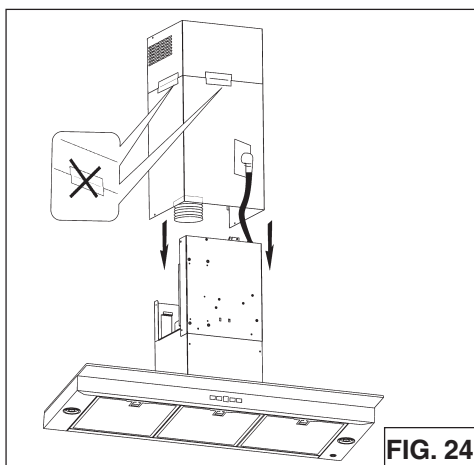

FIG. 24
9. Plug power cord into wall outlet. 10. Remove tape from flues and lower into position on the hood (Fig.24).